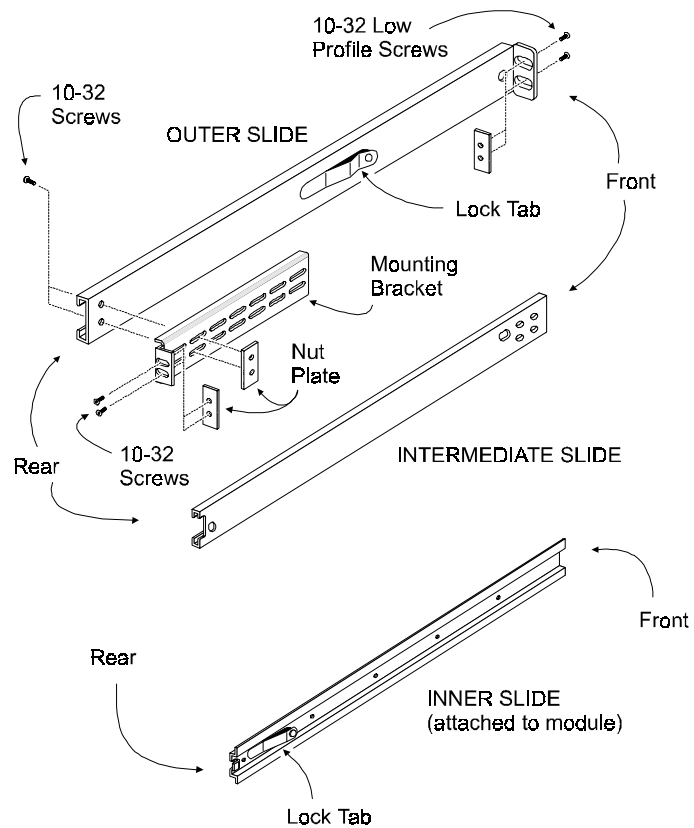

Figure 2-10 Rack Slide Parts
1. Refer to Figure 2-10 to identify and orient the parts of the slides. The slide is attached to the Module enclosure by means of three screws through the inner slide. These will be accessible after the slides have been separated.